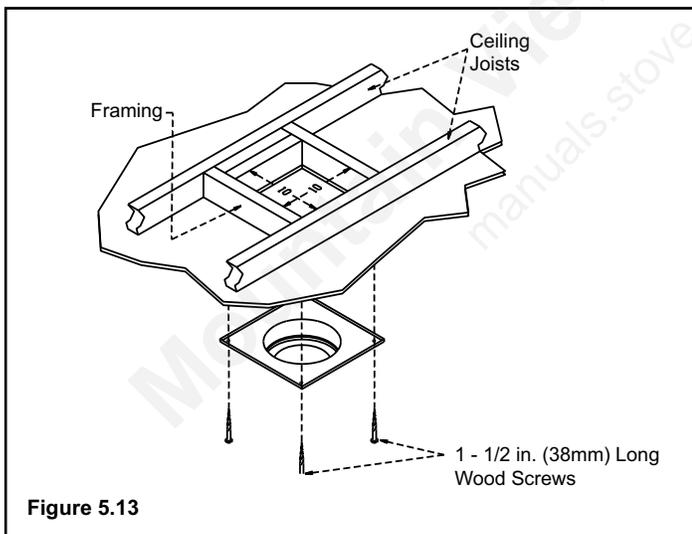

Figure 5.13
To install the round support box/wall thimble cover in a flat ceiling, cut a 10 in. (254mm) square hole in the ceiling, centered on the hole drilled in Step 2. Frame the hole as shown in **Figure 5.13**.
**Note:** For multi-story vertical installations, a ceiling firestop is required at the second floor, and any subsequent floors (**Figure 5.16**). The opening should be framed to 10 in. x 10 in. (254mm x 254mm) inside dimensions, in the same manner as shown in **Figure 5.13**.